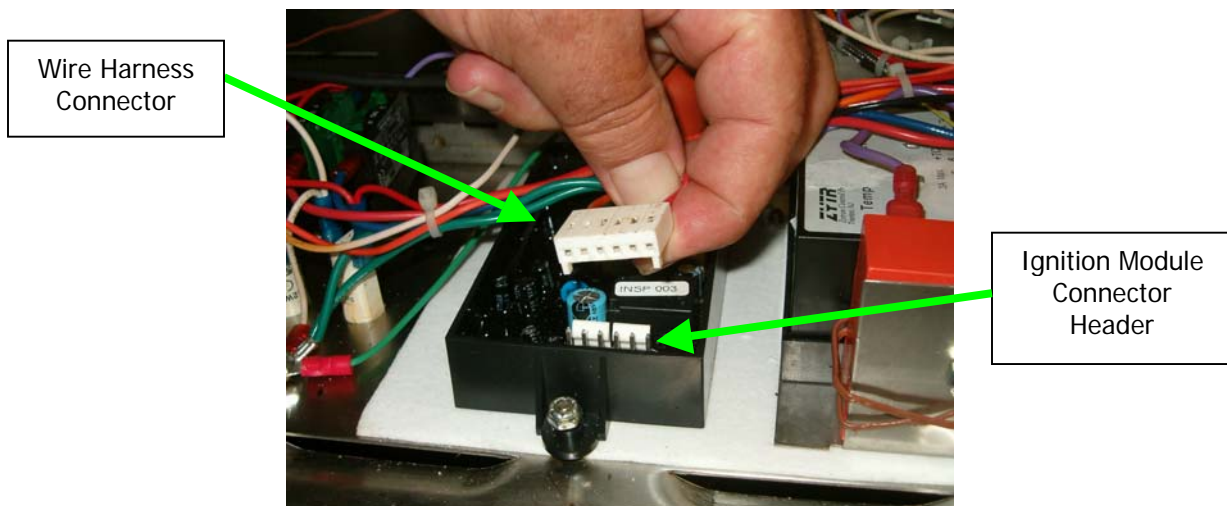

Fig 1
- 1) Remove the ignition module wire harness from the ignition module (see Fig. 1).